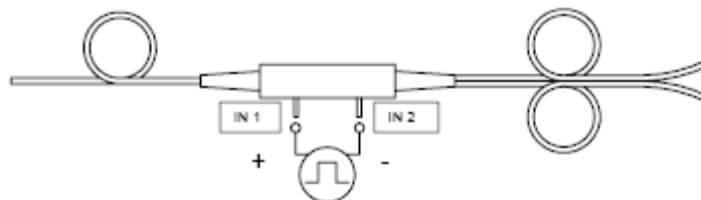

Figure 2 - Reversing the Polarity
- 4) If the light is still being output on the N.C. fiber, then this polarity corresponds with the COM-N.C. active path. To toggle to the COM-N.O. path reverse the polarity of the pulse as shown in Fig. 2.
- 5) If light is now being output on the N.O. fiber, then this polarity corresponds to the COM-N.O. active path. To toggle to the COM-N.C. path reverse the polarity of the pulse as shown in Fig. 2.